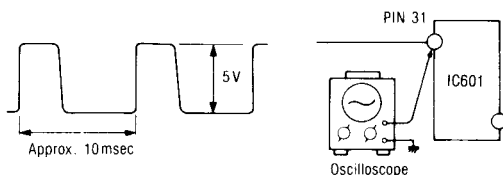

Fig. 21
2. Connect an oscilloscope to pin 31 of IC601, as shown in Fig. 21.